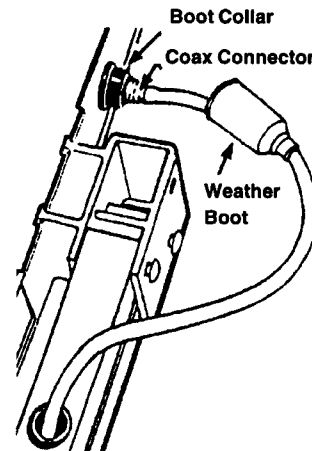

FIGURE 3
**STEP 6:** Attach coax connector to jack on back of antenna head, slide weather boot into place over boot collar as shown in Figure 3.